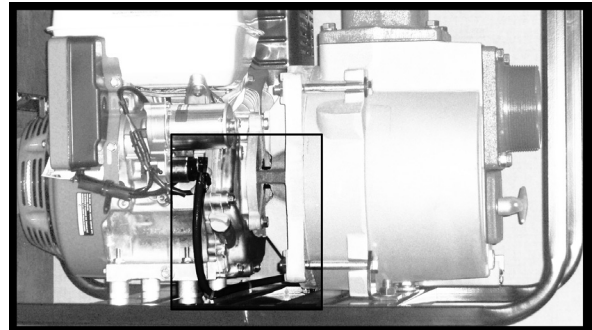

Figure 1 - Battery Cable
2. Refer to engine manual for proper wiring instructions. Be sure to route and secure battery cable safely UNDER pump where it will not be pinched or come in contact with hot engine exhaust or muffler (see Figure 1).